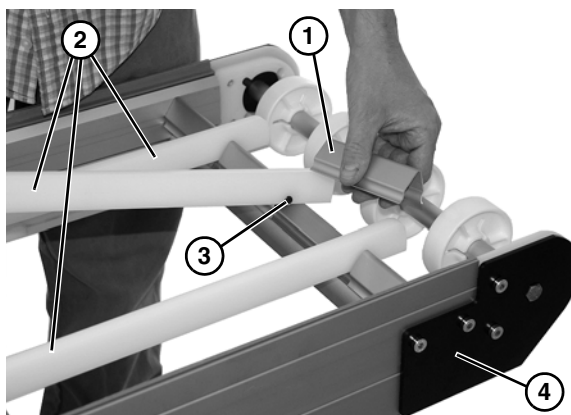

Figure 28
2. Remove inner spacer (**Figure 28, item 1**) from top of frame assembly.
*The upper wearstrips (**Figure 28, item 2**) have a screw (**Figure 28, item 3**) on end of wearstrip that is retained by the inner spacers (**Figure 28, item 1**).*
3. Remove upper wear strips (**Figure 28, item 2**).